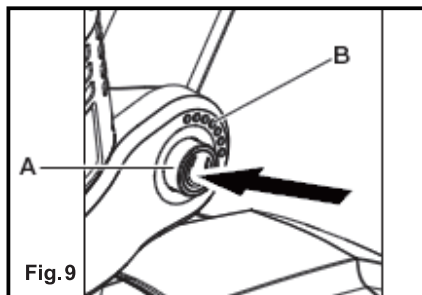

Fig.9
- The safety guard is equipped with a trimmer line cut-off blade that cuts excess trimming line (Fig.9).